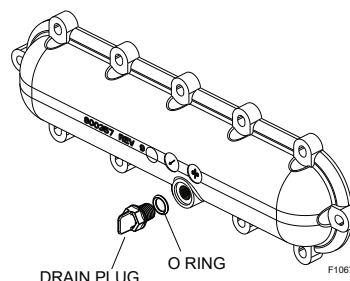
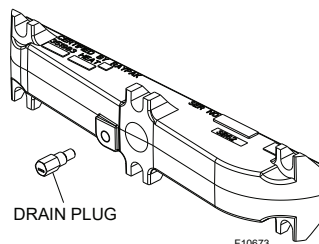

Figure 63. Return Header Drain Plug, Polymer
Figure 64. Return Header Drain Valve, Brass
2. Remove the ProTek Shield Assy located in the inlet/outlet header, (under water pipes). Remove the heat exchanger inspection panel on the side opposite water piping to gain access to the drain plug on the return header. Open drain plug on return header. See **Figure 63** and **Figure 64**.